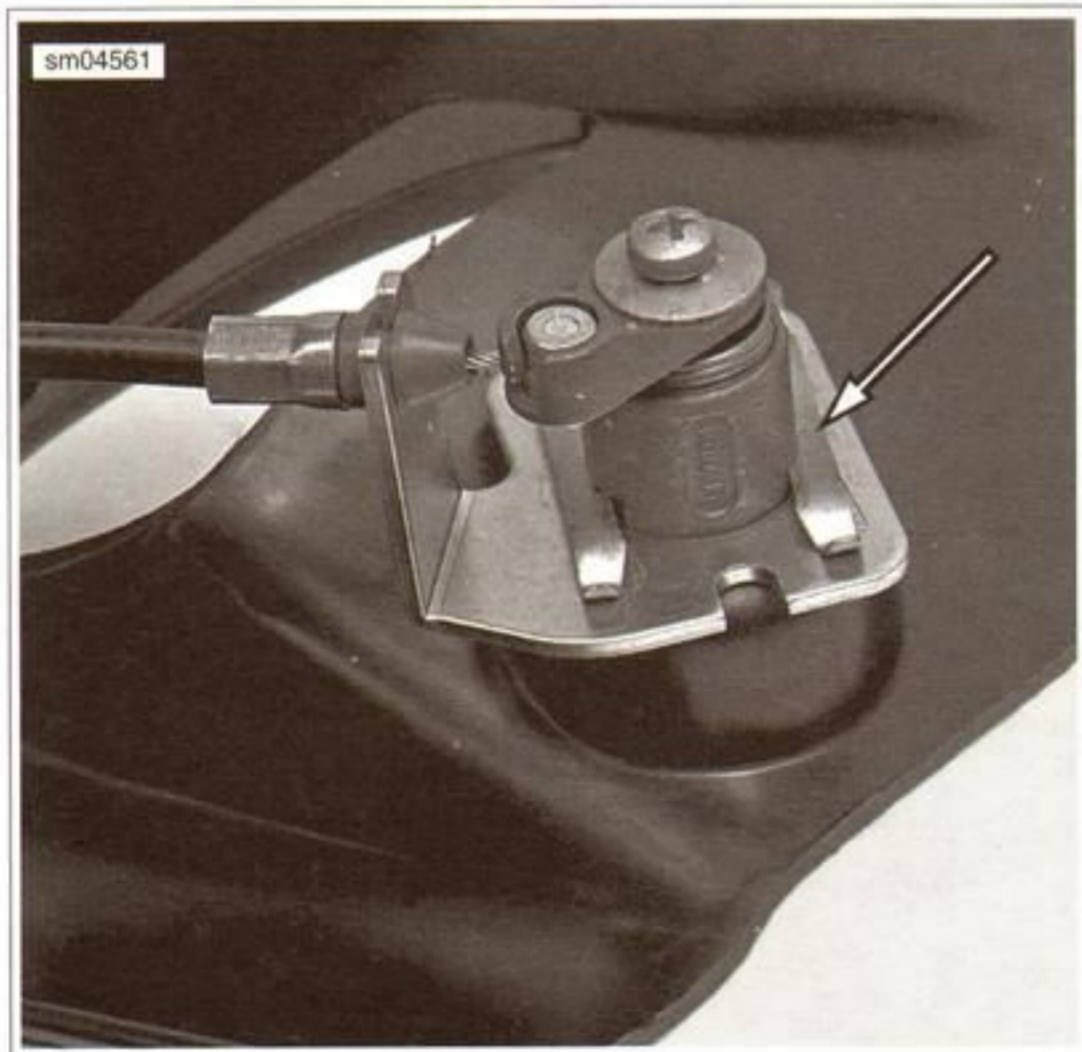

Figure 2-115. Pillion Lock Retainer
5. See Figure 2-115. Pull the retaining clip and remove the barrel and cable, the seat lock plate and the lock from the tail section.